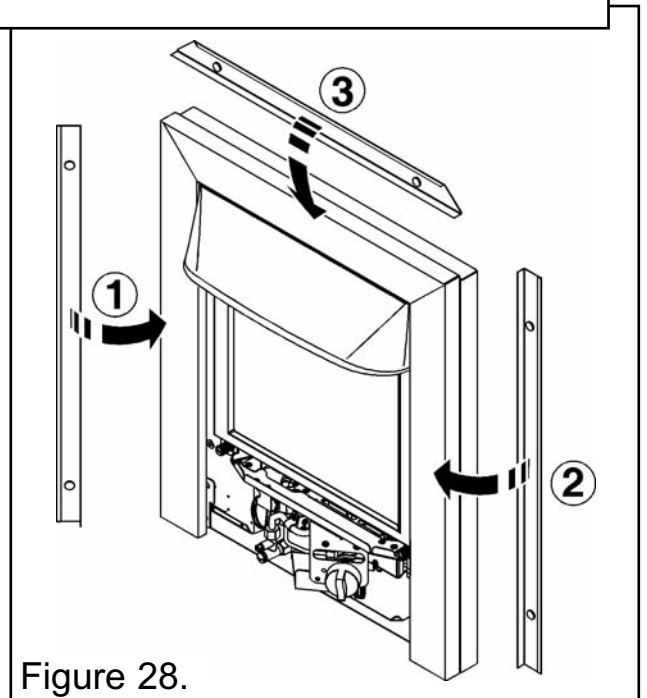

Figure 28.
5. The fascia is supplied with a trim set. Each trim piece is held in place using two magnets. Place two magnets approximately 50mm from the ends of each trim piece. The top trim is the shortest trim. Fit the side trims to the sides of the fascia frame (See figure 28). With the side trims in place, fit the top trim to the fascia frame (See figure 28).